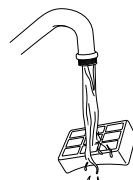

Fig. 23
- 4 Rinse the filter under the tap using lukewarm water with the dirty side face-down until the water runs clear. **(Fig. 23)**